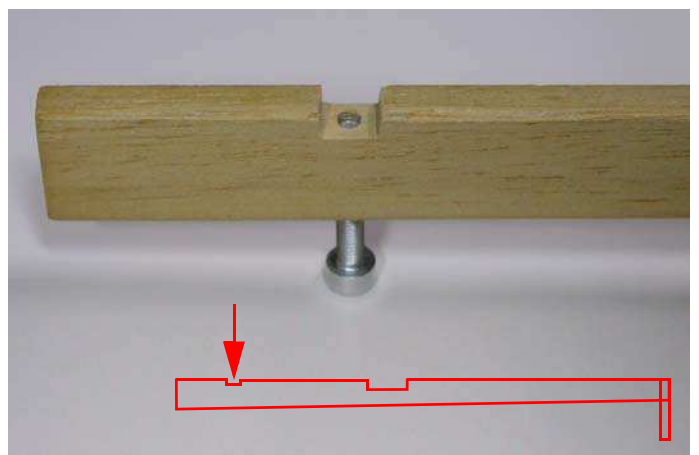

Fig.72: Notch for the nut.
- in the same position, (on the lower side of the strip), using a flat file, make a notch about **5 mm** wide and about **2 mm** deep (see figure 72);